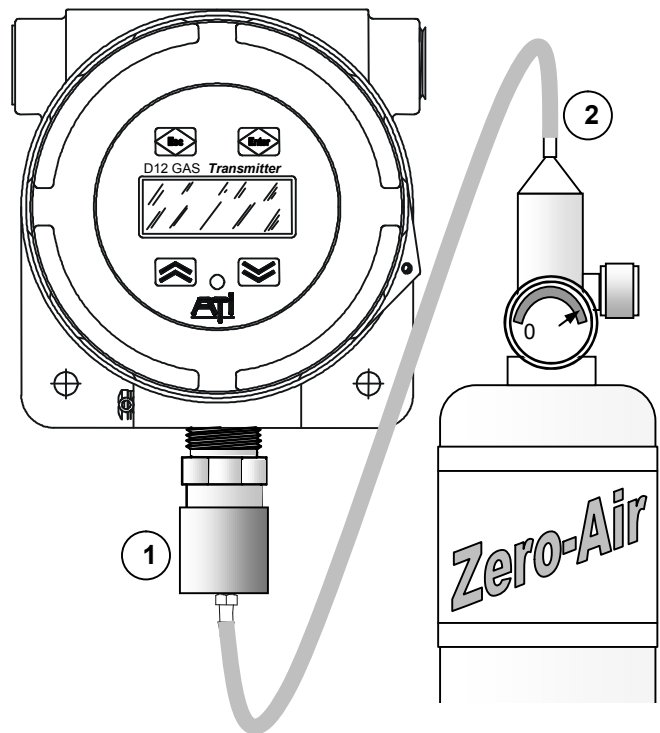

Figure 28. Zero calibration
Performing a zero calibration requires a cylinder of Zero-Air with a 500 cc/min regulator, calibration adapter, and a convenient length of 1/4" tubing. Referring to Figure 28, screw the calibration adapter onto the exposed end of the sensor and connect one end of the tubing (1), connect the other end of tubing to the cylinder's regulator (2). Do not open the gas valve until instructed below.